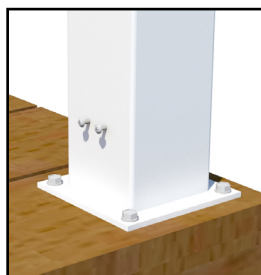

Fig. 4
- Remove "L" bracket. Leaving the screws in place with the screw head slightly away from the post. (See Fig. 4)
- Loosen screws about 1/8 of a turn removing the mounting "L" brackets. (See Fig. 4)